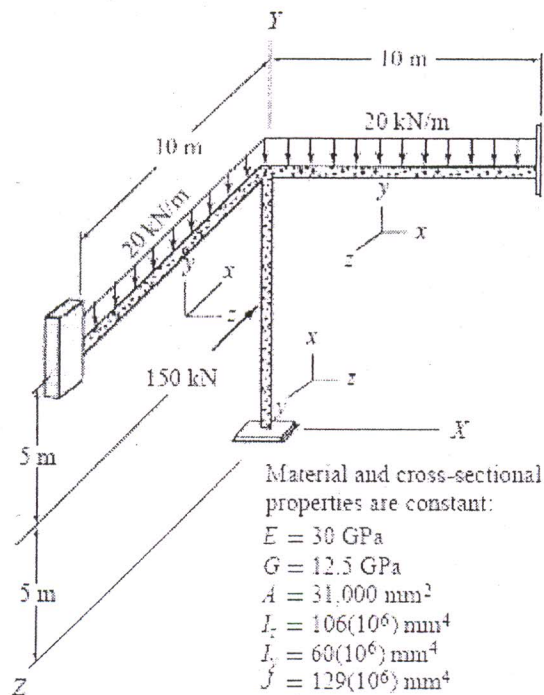

Fig. 5
- Q.5 For the space frame shown in Fig. 5, write the member stiffness matrix for member parallel to the X axis. (5)